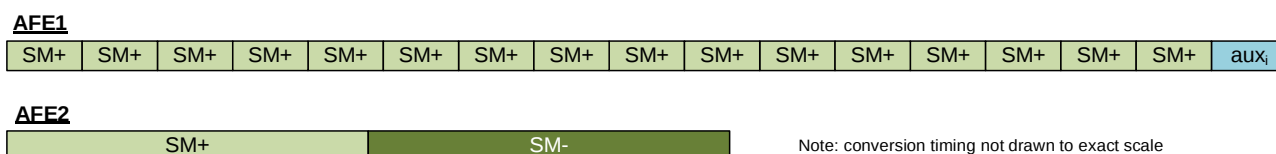

Figure 27: Sequencer Illustration for AFE1 and AFE2
The fast reaction of the bridge sensor input is achieved through AFE1, which runs at low resolution (10 bit) and highest update rate. AFE2 runs on high resolution (SM+/SM- sequencer, 16bit) and a slower update rate according to Table 13. Figure 27 illustrates the sequence of AFE1 and AF2 measurements.
- The aux_i cycle in the sequencer becomes automatically activated if T1 or PTAT are selected. If no temperature sensor is selected, the aux_i cycle shown in Figure 27 is removed.